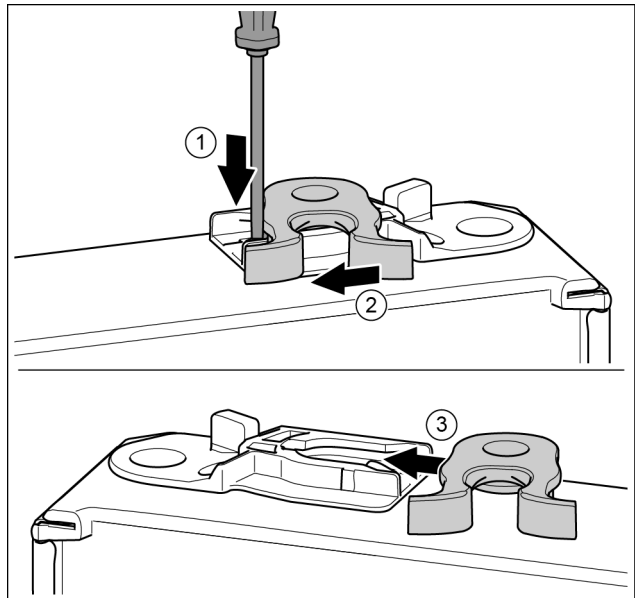

Fig. 19
- ▶ Push the tab downwards with a slotted screwdriver. Fig. 19 (1)
- ▶ Pull the door latch out of the guide. Fig. 19 (2)
- ▶ Push the door latch into the guide on the other side. Fig. 19 (3)